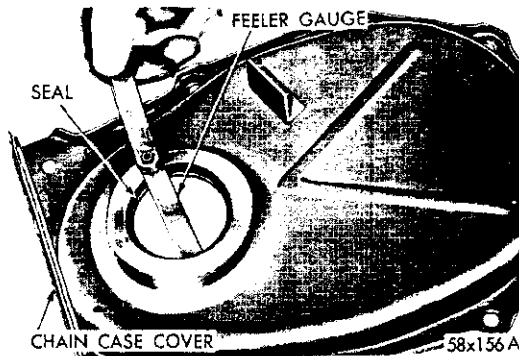

Fig. 31—Checking the Seal for Proper Seating
(5) The seal is properly installed when the neoprene is tight against the face of the cover. Try to insert a .0015 inch feeler gauge between the neoprene and the cover (Fig. 31). If the seal is installed properly, the feeler gauge cannot be inserted.